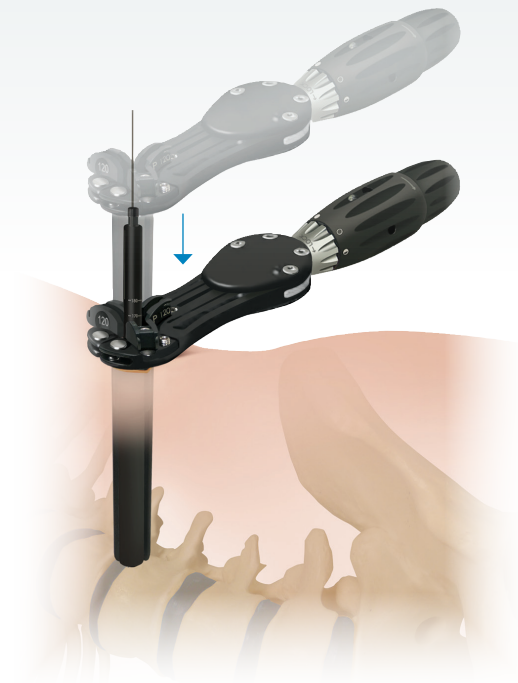

Figure 21
- Align the retractor with the C-arm and verify the blades of the retractor are in line with the disc space using fluoroscopy. The retractor handle should be parallel to the disc space, and unless ribs or the iliac crest prevent it, the retractor working channel should be aligned with the disc space (**Figure 21**).